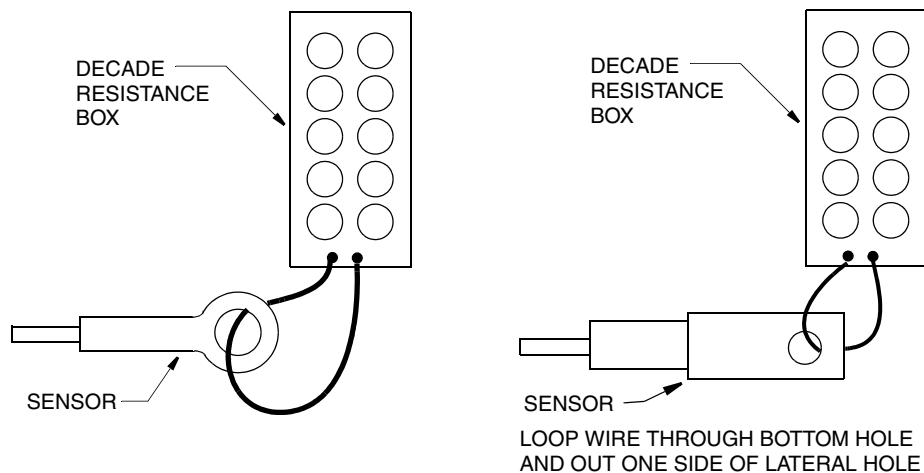

Figure 15. Connection of Loop Resistance
The resistance values calculated in the preceding formulas and example assume a single loop or turn through the sensor as shown in Figure 15. When very small resistances (less than 10 ohms) are required, and are not available using equipment at
- At the **CONNECT LOOP RES** prompt, connect the loop resistance through the sensor as shown in Figure 15.